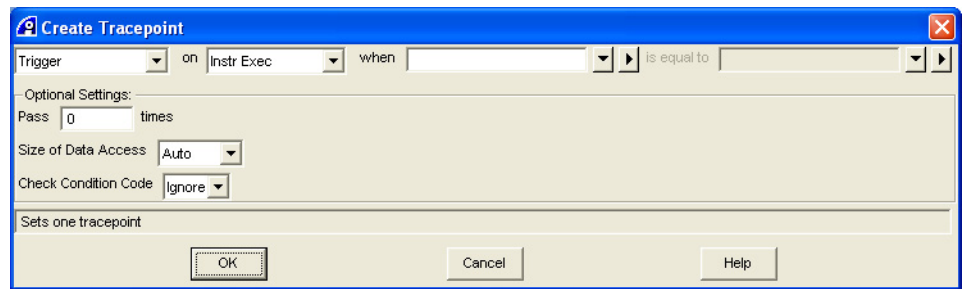

Figure 10-77 Create Tracepoint dialog box
- a. Select **Debug** → **Tracepoints** → **Create Tracepoint...** from the Code window main menu to display the Create Tracepoint dialog box. Figure 10-77 on page 10-76 shows an example: